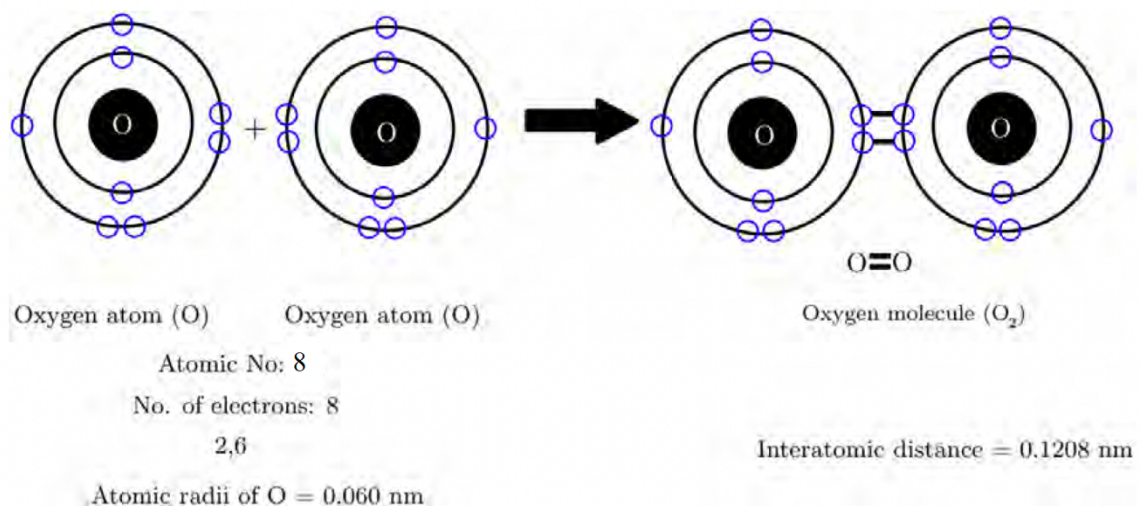

Fig. 1.16: Formation of covalent bond in oxygen molecule
- **Fig. 1.16: Covalent Bond in O_2 Molecule**